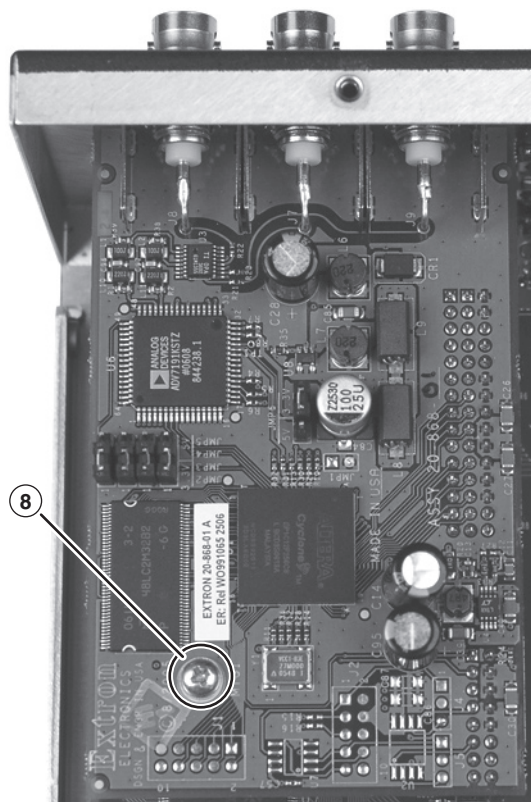

Figure 11 — Secure the output board to the standoff
7. See figure 11. Secure the output board to the standoff on the main board with the included screw (⑧).